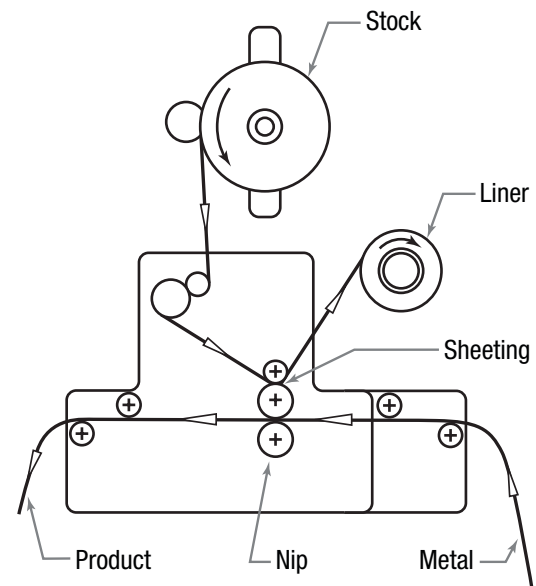

Figure 9
- j. Select JOG on the Applicator switch. Press the Applicator pushbutton and run enough web so the liner can be wound around the liner roll clockwise as shown on the thread-up diagram (Figure 9).